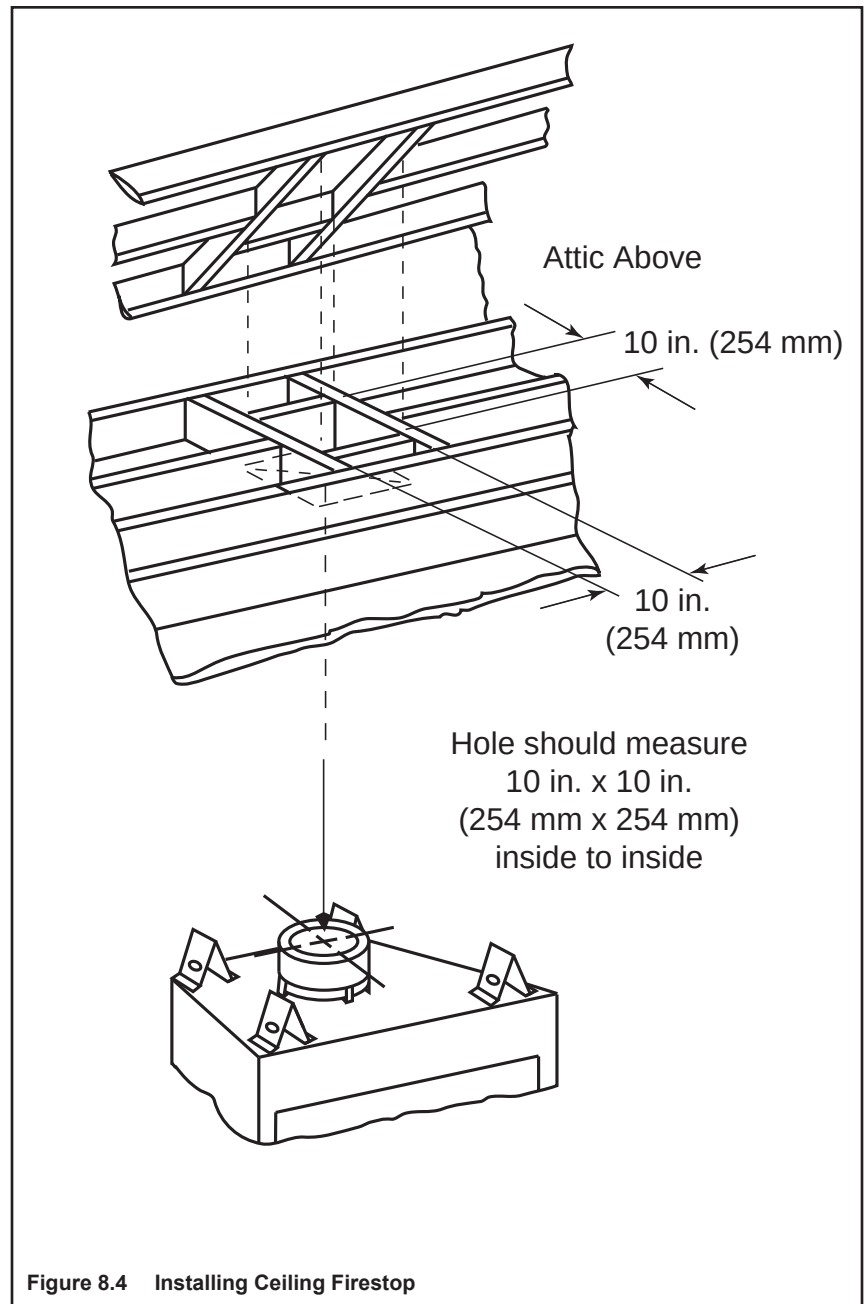

Figure 8.4 Installing Ceiling Firestop
- Frame an opening 10 in. by 10 in. (254 mm by 254 mm) whenever the vent penetrates a ceiling/floor (see Figure 8.4).